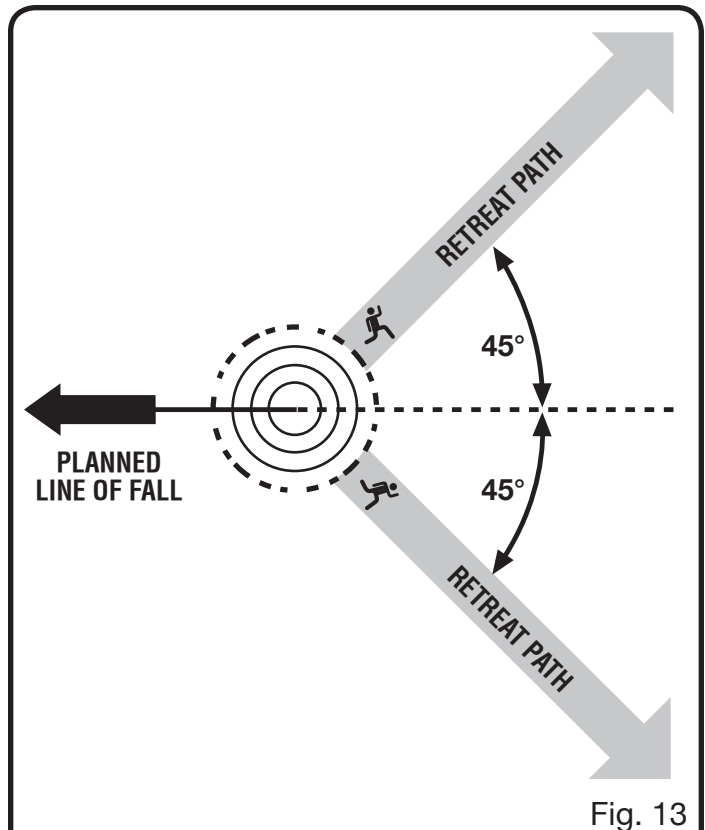

Fig. 13
See Figures 13 - 16.
- Before any cuts are started, pick your escape route (or routes in case the intended route is blocked); clear the immediate area around the tree and make sure there are no obstructions in your planned path of retreat. Clear paths of safe retreat should extend back and diagonally (45°) to the rear of the planned line of fall. When the tree begins to fall, you should retreat away from the direction of fall along a retreat path and at least 20 feet away from the trunk in case it kicks back over the stump. *See Figure 13.*